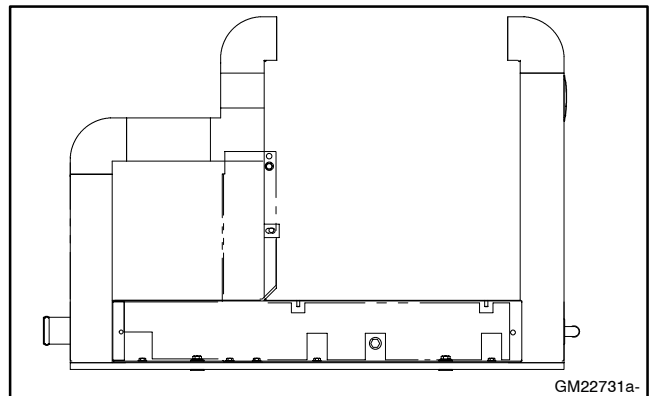

Figure 12 Rail Framework
8.5 See Figure 12. On the service side, engine end, place one end of the subassembly from step 8.4 onto the corners of the rails (363512-S and 363516-S). Do not final tighten at this time.
8.6 See Figure 12. On the nonservice side, engine end, place the other end of the subassembly from step 8.4 onto the corners of the rails (363519-S and 363516-S). Do not final tighten at this time.